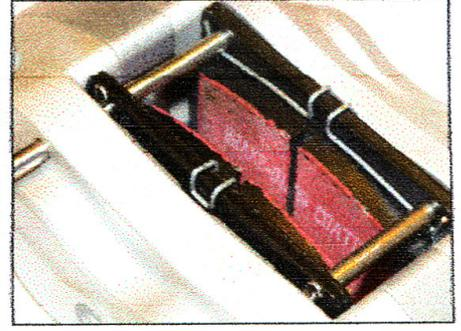

Fig 3.
- Locate the pad retaining pins with the small "R" clips. These pass through the small hole, drilled in the pad retaining pins and should be between the back of the inboard pad and the caliper body. See Fig 3.